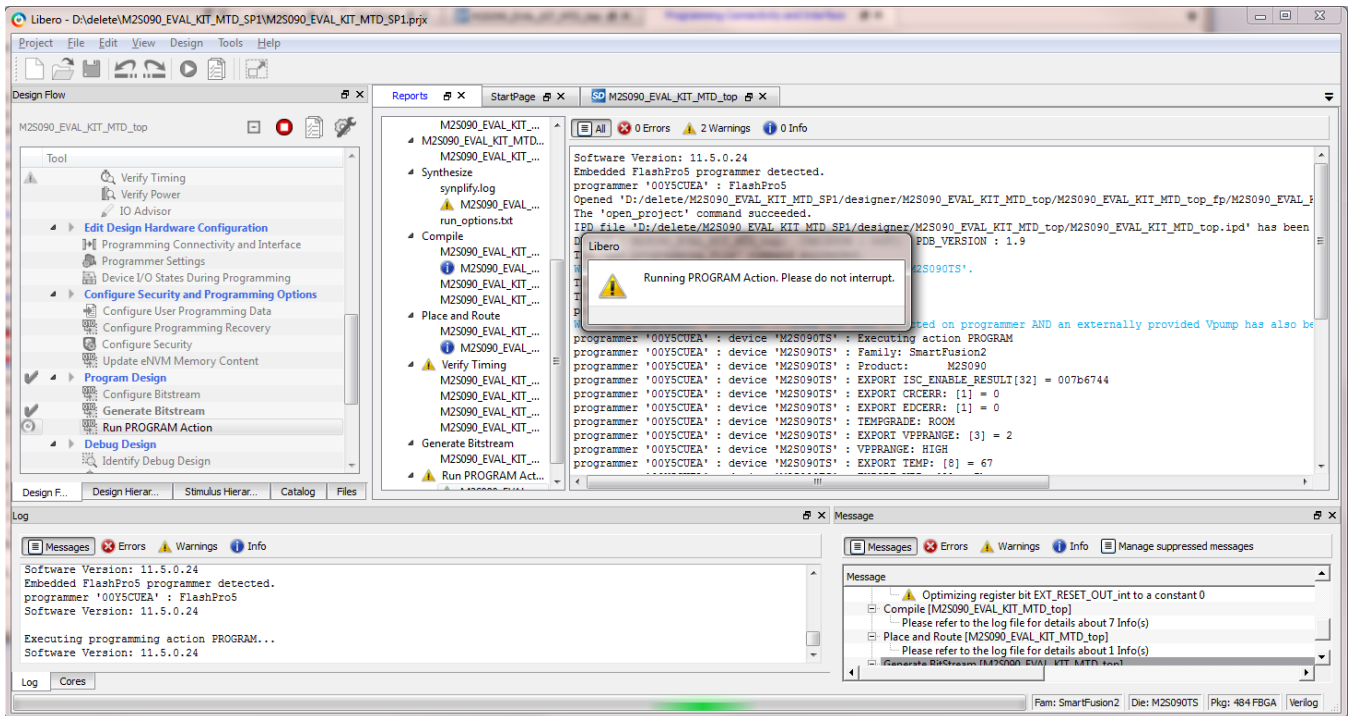

Figure 28 Running Program Action
11. When the programming begins, the window is displayed as shown in Figure 28.